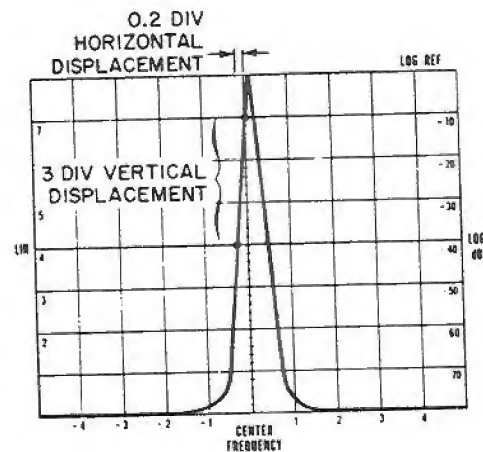

Figure 4-3. Demodulation Sensitivity Measurement
9. Refer to Figure 4-3. Tune Test Analyzer FINE TUNE so that the upward slope of the display intersects the CENTER FREQUENCY graticule line one division from the top.